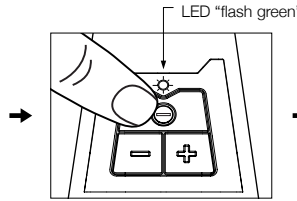

Figure 2
2. Press the power on/off button "⊖" on the button plate to switch on the sander. The LED indicator shows "flash green" color after sander being switched on. - see figure 2.